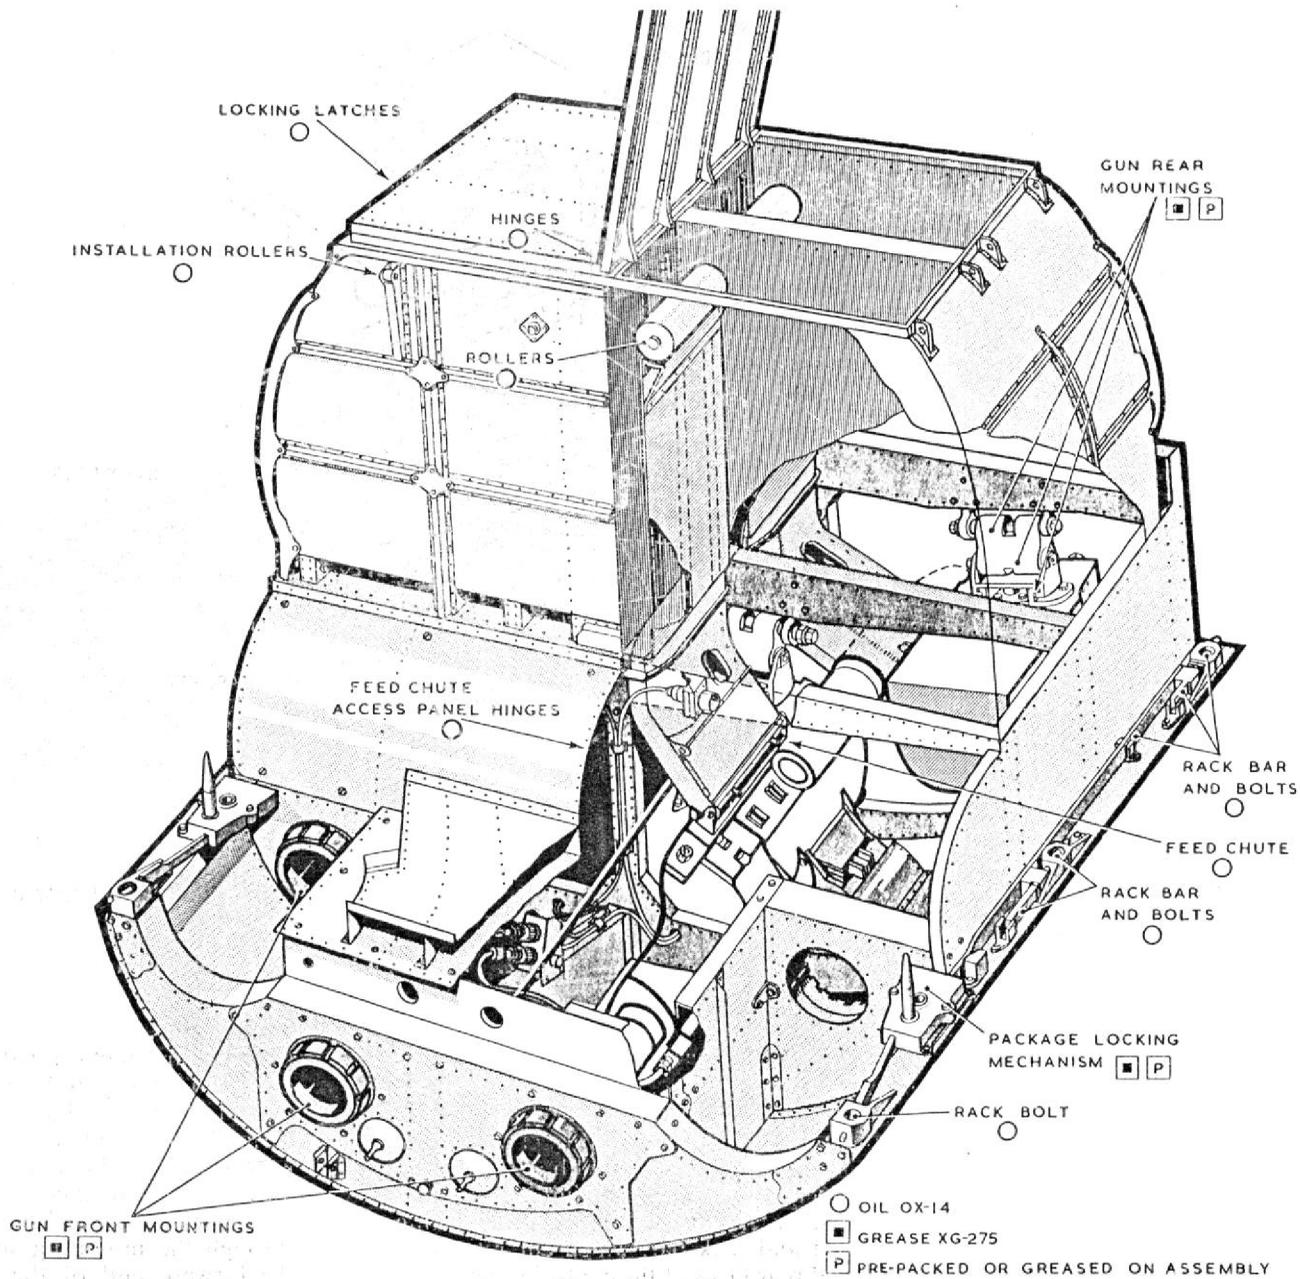

Fig. 1. Gun package lubrication
3. The gun package (illustrated in fig. 1), consists of a removable structure designed to fit flush in the underside of the front fuselage just forward of the radio bay with the underside of the package continuing the fuselage line. The ammunition tank structure, which is removable, is carried on a platform at the top of the package. The package, complete with ammunition tank, is supported in the fuselage by six spherical ended mounting spigots which project downwards, three on each side, from the fuselage bottom longerons to engage with sockets integral with the package. These mountings are locked by rack operated pins, which pass through holes in the spigots and sockets. The locking mechanisms are located on each side at the forward end of the package and are operated by a special removable key. The package is also provided with guide spigots at the forward end, which enter brackets attached to the bottom longerons before the main attachments engage. The package contains the front and the adjustable rear mountings in which the guns are carried. The ammunition feed chutes and belt link chutes, together with the ventilating ducts, are also contained in this structure. The empty cartridge case chutes extend aft from the rear of the package to mountings on frame 19.
Ammunition tank (fig. 1)
Feed chutes (fig. 1)
24. The gun package lubrication is indicated on fig. 1
25. Apart from checking for damage the only servicing necessary to the ammunition tanks is to ensure that they are kept clean and dry. The feed chutes must also be kept clean and any burrs removed. The roller assemblies and locking pins must be lubricated (fig. 1) and a check made to ensure that they operate smoothly.